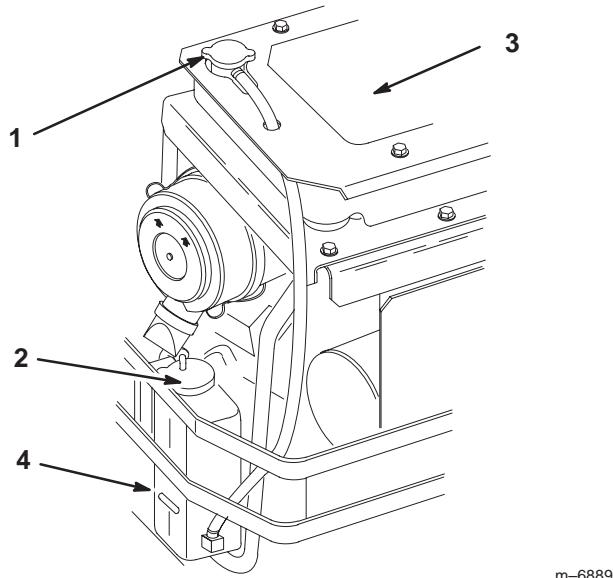

Figure 44
3. With the engine cool, check the overflow bottle level. The fluid needs to be up to the bump on the outside of the overflow bottle (Fig. 44).
4. If the coolant level is low, add a 50/50 mix of extended life antifreeze/Dex-Cool® and water to the overflow bottle (Fig. 44).
5. Add the 50/50 coolant mix to the overflow bottle and fill it to the indicator line on the bottle (Fig. 44).
6. Remove debris from the radiator core and engine (Fig. 44).